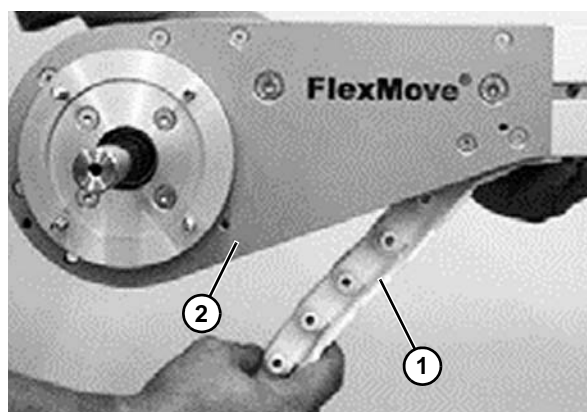
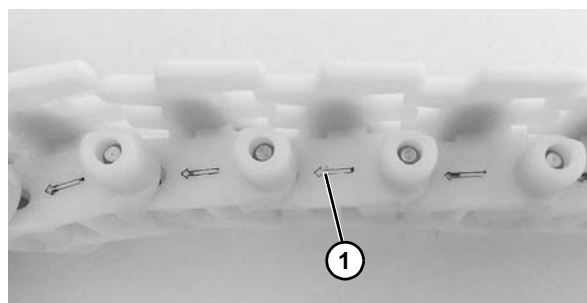

Figure 51
Figure 52
1. Insert the chain (**Figure 51, item 1**) into the underside of the drive unit (**Figure 51, item 2**). Make sure the chain will be moving in the correct direction, as indicated by the arrow (**Figure 52, item 1**) located at the side of all chain links.